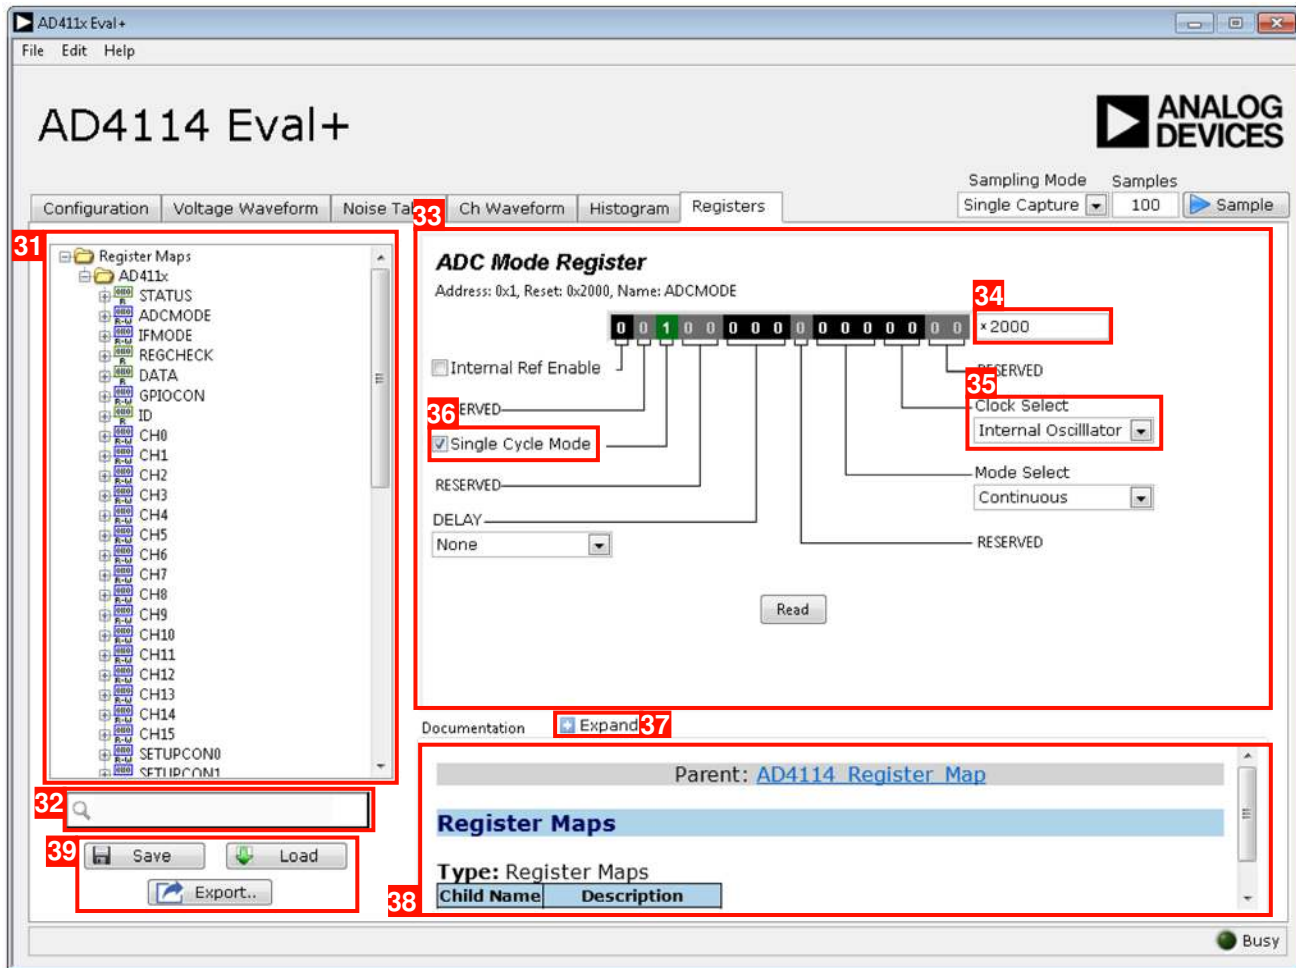

Figure 20. Registers Tab
**Save** and **Load** (Label 39 in Figure 20) allow the user to save the current register map setting to a file and to load the setting from the same file, respectively. The **Export** button exports the register settings as a header file that is compatible with the AD411x no operating system software drivers. An example showing how this configuration file can be used with the AD411x no operating system software drivers to enable rapid prototyping can be found at the AD717x/AD411x Mbed Example site.
Click the **Register Maps** nested list (Label 31 in Figure 20) to show each register. Click the expand button next to each register to show the bit fields contained within that register.
The search box (Label 32 in Figure 20) allows the user to search the register maps list for any register or bit field. Entering a value into this control filters the register list.
The register control area (Label 33 in Figure 20) allows the user to change the individual bit of the register selected in the register map list by clicking the bits in the register control or by programming the register value directly into the value control box (Label 34 in Figure 20). The register and bit controls also show all bit fields for the selected register. Change the values by using the **Clock Select** dropdown menu (Label 35 in Figure 20) or by selecting or clearing the **Single Cycle Mode** check box (Label 36 in Figure 20).
The **Documentation** area (Label 38 in Figure 20) contains the documentation for the register or the bit field selected. This field can be updated by selecting a register or bit field in the register list, or by hovering over the register or bit field in the register list or register control. To display the **Documentation** area in a separate window click **Expand** (Label 37 in Figure 20).
**Save** and **Load** (Label 39 in Figure 20) allow the user to save the current register map setting to a file and to load the setting from the same file, respectively. The **Export** button exports the register settings as a header file that is compatible with the **AD411x no operating system software drivers**, which allows the user to quickly save their preferred configuration for prototyping use.